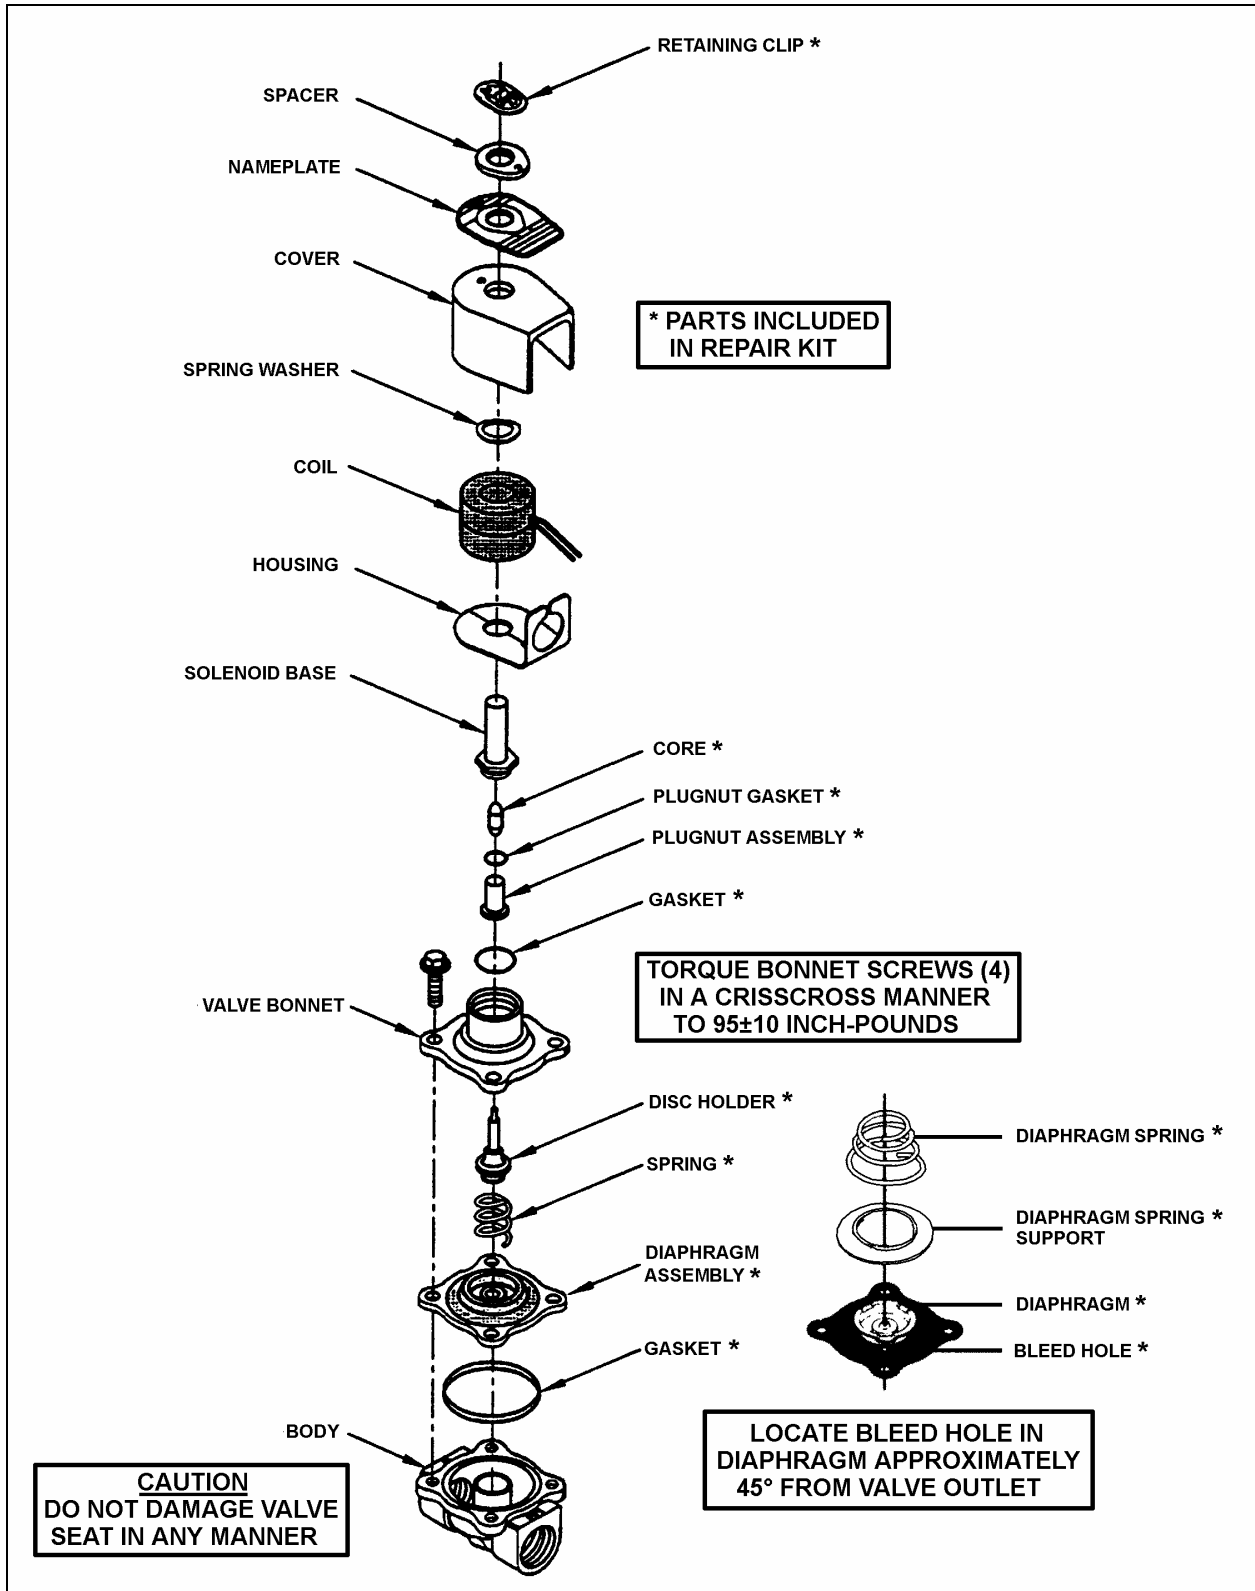

FIGURE 50: DRIVER'S HOT WATER SOLENOID VALVE
3. Coil is now accessible for replacement. Reassemble by reversing sequence of disassembly. Refer to exploded view (Figure 50) for identification and location of parts.
3. Disassemble valve in an orderly fashion paying careful attention to exploded view (Figure 50) provided for identification of parts.
1. Reassemble in reverse order of disassembly, paying careful attention to exploded view provided for identification and placement of parts (Figure 50).